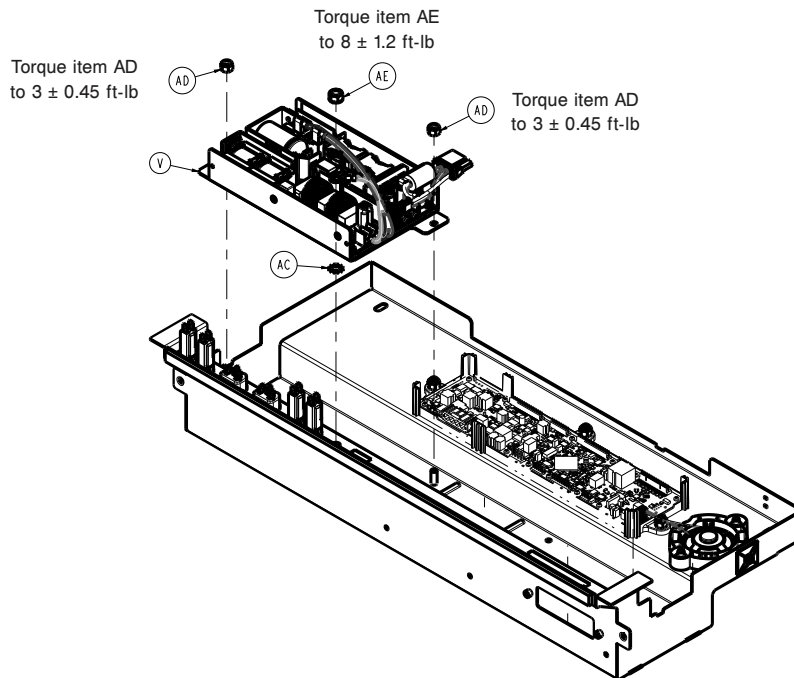

Figure 15 – Replacing the power supply
12. Using a ratchet and a 7/16" socket, remove the two nuts (AD) that secure the battery strap (B) to the electronics box assembly (Figure 15). Save the nuts.